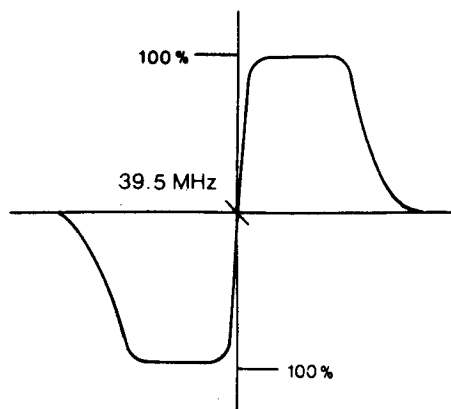

Fig.3 AFC Responses
6. Adjust T131 for response shown in figure 3.